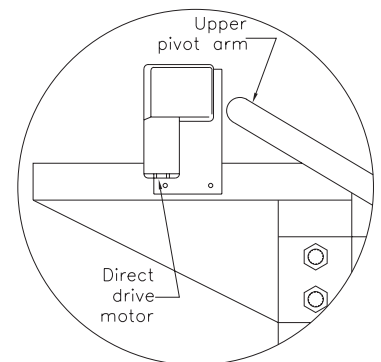

FIGURE 4
- 8) Swing the complete pivot arm assembly forward until it rests on the head assembly. The rear cross piece should be resting in the center of the head assembly opening (see Figure 4). If the rear cross piece is **not** landing the center of the opening, loosen the 4 bolts that hold the upper arms into the lower arms and adjust where the rear cross piece lands. Lightly re-tighten the bolts.